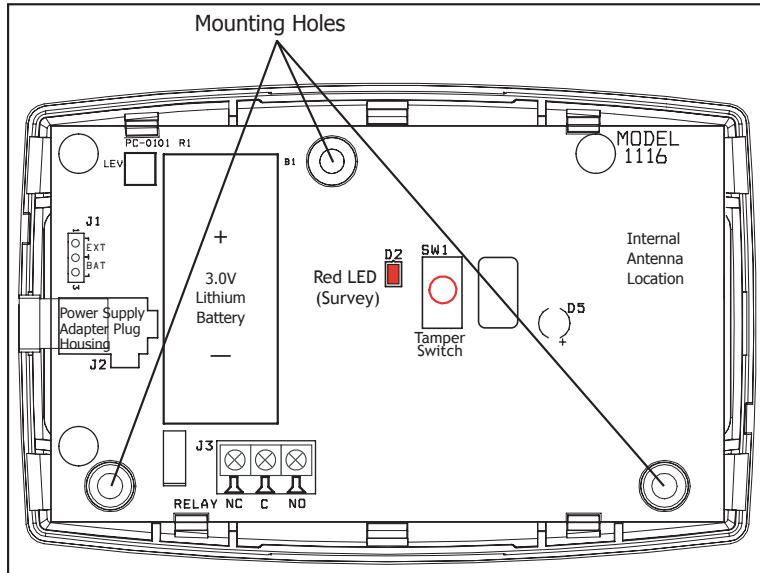

Figure 2: 1116 Relay Output PCB
The 1116 provides a survey capability to allow one person to confirm communication with the receiver while the cover is removed. The 1116 PCB Red Survey LED (See Figure 2) turns on whenever data is sent to the receiver then immediately turns off when the receiver acknowledgement is received. Pressing the tamper switch is a convenient way to send data to the receiver to confirm operation. When the 1116 does not receive an acknowledgement from the receiver the survey LED remains on for about 8 seconds to let you know communication is not established. Communication is also faulty when the LED flashes multiple times in quick succession. Relocate the 1116 or receiver until the LED immediately turns off indicating the 1116 and receiver are communicating properly. Proper communication between the 1116 and receiver is verified when for each press or release of the tamper switch, the LED blinks immediately on and immediately off. Repeat this test to confirm five separate consecutive LED blinks. Any indication otherwise means proper communication has not been established.
Locate the 1116 on a flat surface such as a wall or single-gang box. When using the optional Model 376 plug-in power supply, mount the 1116 near a wall outlet. See Figure 2 for mounting hole locations.
4. Place the 3.0V Lithium battery in the holder and press into place. See Figure 2 for Battery location.